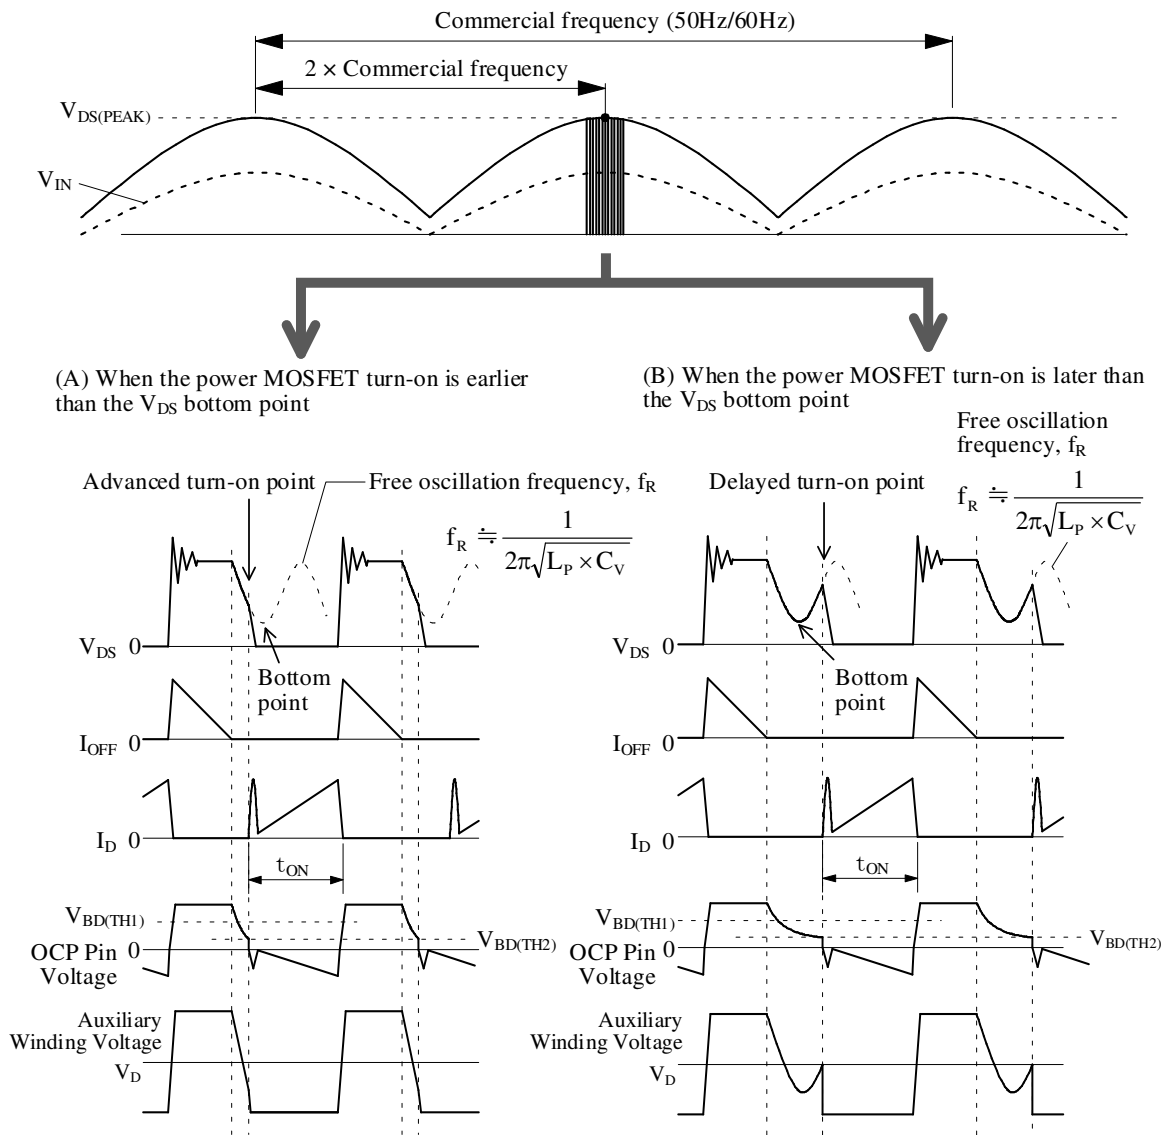

Figure 8-17. V_{DS} Waveforms at the $V_{\text{DS(PEAK)}}$
- When the power MOSFET turn-on is earlier than the V_{DS} bottom point at the $V_{\text{DS(PEAK)}}$ as Figure 8-17 (A): Confirm the V_{DS} bottom point at the initial constant, and then increase the value of C7 gradually until the power MOSFET turn-on point matches the V_{DS} bottom point.
- When the power MOSFET turn-on is later than the V_{DS} bottom point at the $V_{\text{DS(PEAK)}}$ as Figure 8-17 (B): Confirm the V_{DS} bottom point at the initial constant, and then increase the value of C7 gradually until the power MOSFET turn-on point matches the V_{DS} bottom point.